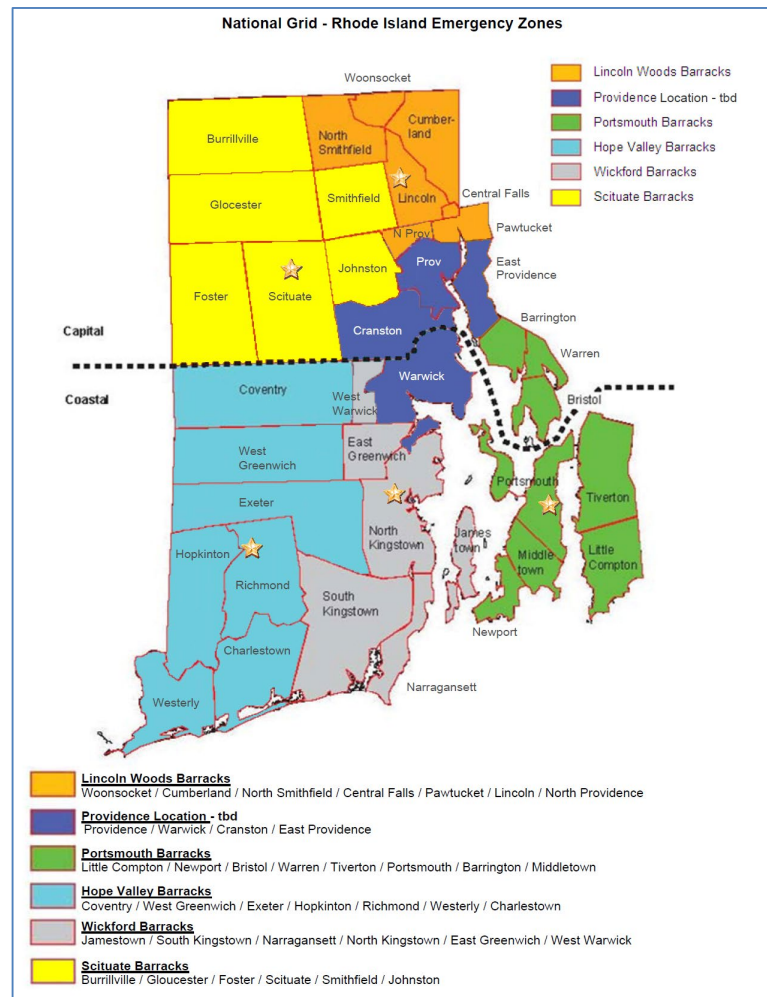

Figure 49: State Police Barracks Used for Task Force Rally Points
Area Community Liaison Coordinators and Community Liaisons will interact with municipal emergency management agencies, police and/or fire departments to establish Task Forces who then meet at rally points which are typically located at the State Police barracks indicated in Figure 49. Road clearance priorities for the Task Forces are determined by the Area Community Liaison Coordinators from information provided by RI DOT and municipal Department of Public Works officials.
- The RI DOT will state their road clearance needs for interstate and state highways in the towns covered by the State Police barracks as noted in Figure 49 and these will receive the highest priority.
- The collection of municipal DPW officials from the towns covered by the State Police barracks as noted in Figure 49 will work to develop a list of road clearance priorities for all municipal roads in the region.